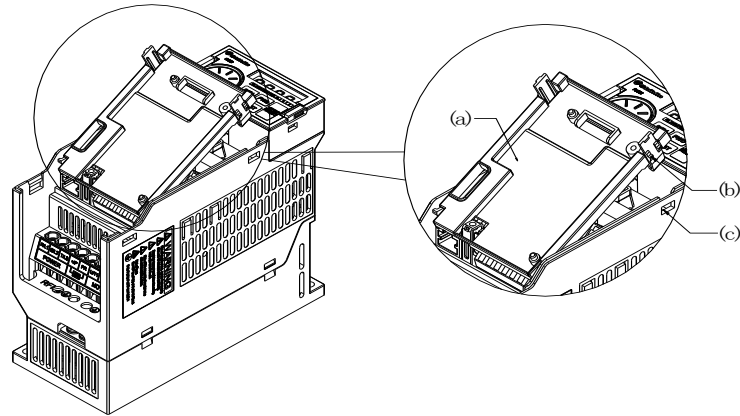

Figure 1
Step 3 : Use the front rear as support and slide (a) in by pressing down as figure 1 shown. .